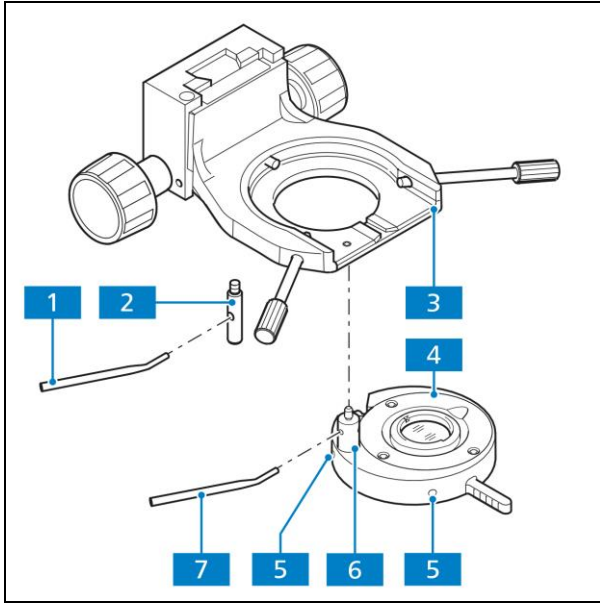

Fig. 3-29 Mounting the low-power system
- Hold the low-power system (Fig. 3-29/4) parallel to the bottom of the condenser carrier (Fig. 3-29/3) and screw the bracket bolt (Fig. 3-29/6) of the low-power system with the angled adjustment lever (Fig. 3-29/7) into the front threaded opening to the left below the condenser carrier (Fig. 3-29/3) until it stops.
- With the adjustment lever (Fig. 3-29/1), screw the stop bolt (Fig. 3-29/2) into the back threaded opening of the condenser barrier (Fig. 3-29/3) to the stop.
- Adjust both adjustment screws (Fig. 3-29/5) using two Allen wrenches (AF 1.5) until the field of vision is optimally illuminated.